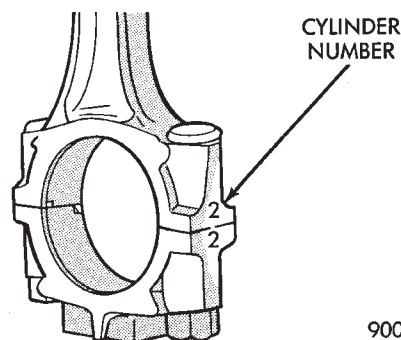

Fig. 60 Identify Connecting Rod to Cylinder
(1) Remove top ridge of cylinder bores with a reliable ridge reamer before removing pistons from cylinder block. **Be sure to keep tops of pistons covered during this operation. Pistons and connecting rods must be removed from top of cylinder block. When removing piston and connecting rod assemblies from the engine, rotate crankshaft so that each connecting rod is centered in cylinder bore.**
(2) Inspect connecting rods and connecting rod caps for cylinder identification. Identify them if necessary (Fig. 60).